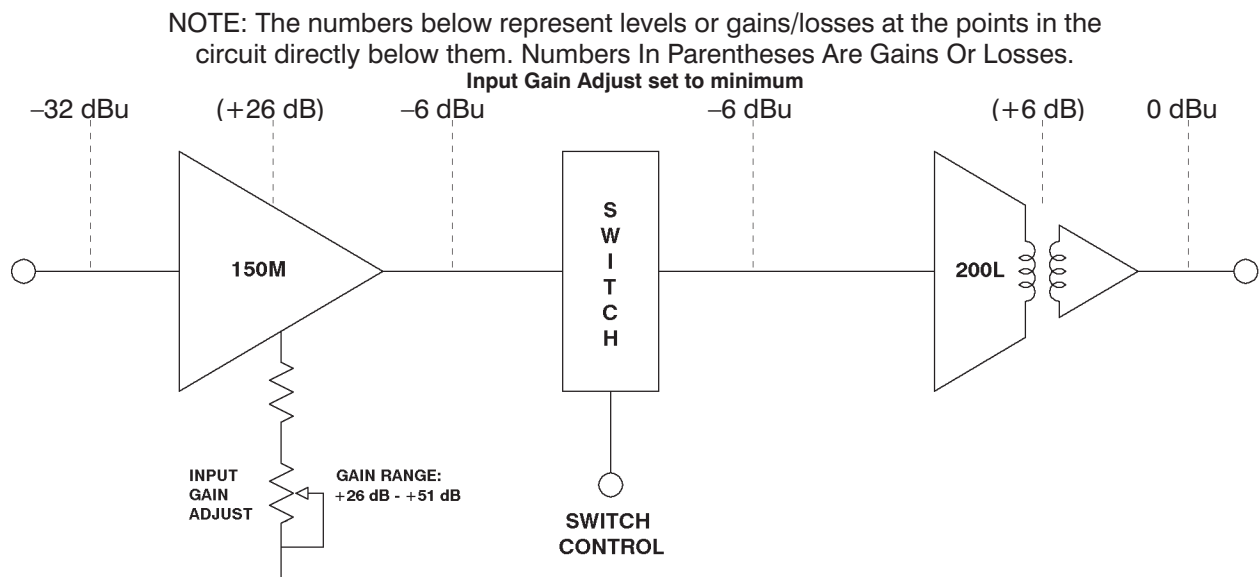

Figure 2 - Gain Structure
1. Locate a proper slot in the mainframe. Mainframe slots are set up on the rear panel of the mother board according to the card type to be used. Slots are dedicated by installing the proper trimpots. Trimpots **MUST** be installed as indicated in Figure 2 and 3 for inputs and outputs to function. Microphone level inputs require 200 Ω trimpots. All others require 10 k Ω trimpots. Slots labels are applied at the factory above each slot position.
The gain structure diagrams in Figures 2 - 3 show the signal levels and gains or losses at key points in the cards. Since all outputs on a card behave identically, only one output is shown in the diagrams. In the examples the Input Gain Adjust pots were set for minimum